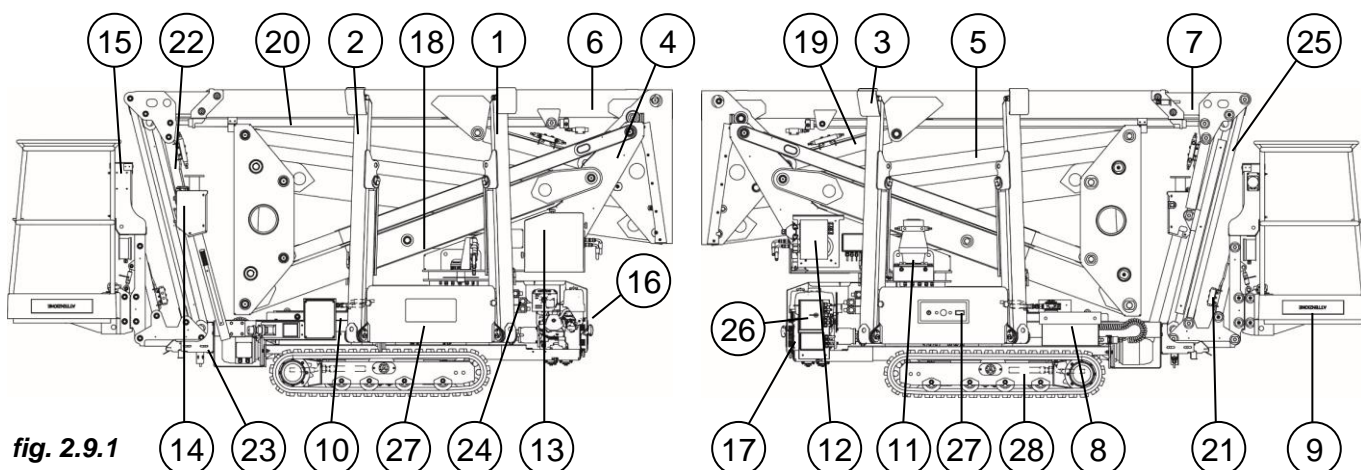
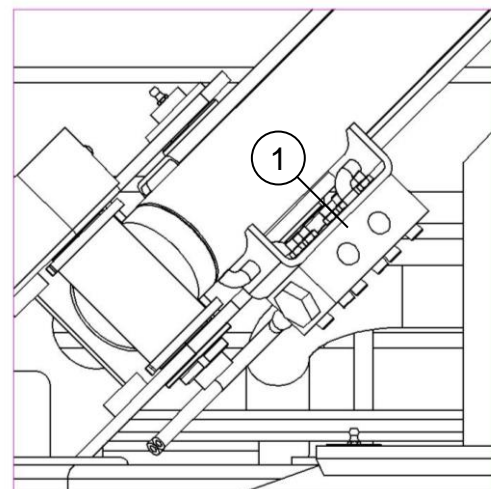

fig. 2.9.1
fig. 2.10.4
Place one on each stabilising cylinder (*pos. 1 fig. 2.10.4*), one on the telescopic boom lifting cylinder, one on the telescopic boom extension cylinder (*pos. 20 fig. 2.9.1*), one mounted on the pantograph lifting cylinder (*pos. 18 fig. 2.9.1*), one on the work platform levelling cylinder (*pos. 21 fig. 2.9.1*), and one on the aerial lifting cylinder (*pos. 22 fig. 2.9.1*). The blocking valves are hydro-powered; they prevent uncontrolled cylinder movement in the absence of pressure (e.g. due to breakage of a delivery pipe).
Located in the rotation gearmotor (*pos. 11 fig. 2.9.1*) triggered in the absence of hydraulic system pressure, blocking the rotation of the turret.
Mounted on the turret rotation hydraulic engine (*pos. 11 fig. 2.9.1*) it is designed to prevent excessive force from being applied to the fifth wheel.
An electronic sensor on the boom stand-by bracket (*pos. 23 fig. 2.9.1*). It only allows the stabilisation controls to be activated when the superstructure is fully closed, the boom is resting on the stand-by bracket, the key selector switch is in the "stabilisers" position. The stabiliser controls are automatically disabled when the boom is moved from its stowed position.
Switch (**pos. 26 fig. 2.9.1**) that interrupts the electrical circuit preventing platform operations. Turning it to the left interrupts the electric circuit, turning it to the right activates the circuit (**pos. 1 fig 2.11.9**).